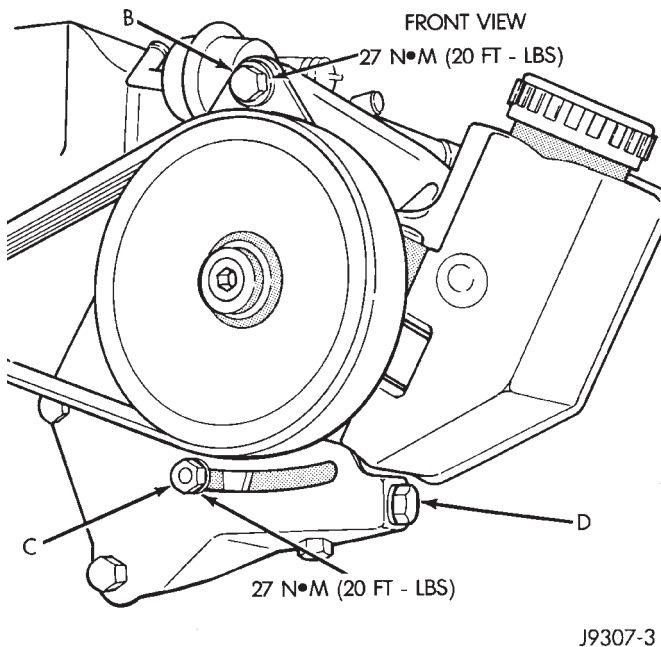

Fig. 9 P.S. Pump Front Mounting Bolt/Locknut—Typical
- (2) Loosen upper pump pivot bolt B and lower lock nut C (Fig. 9).